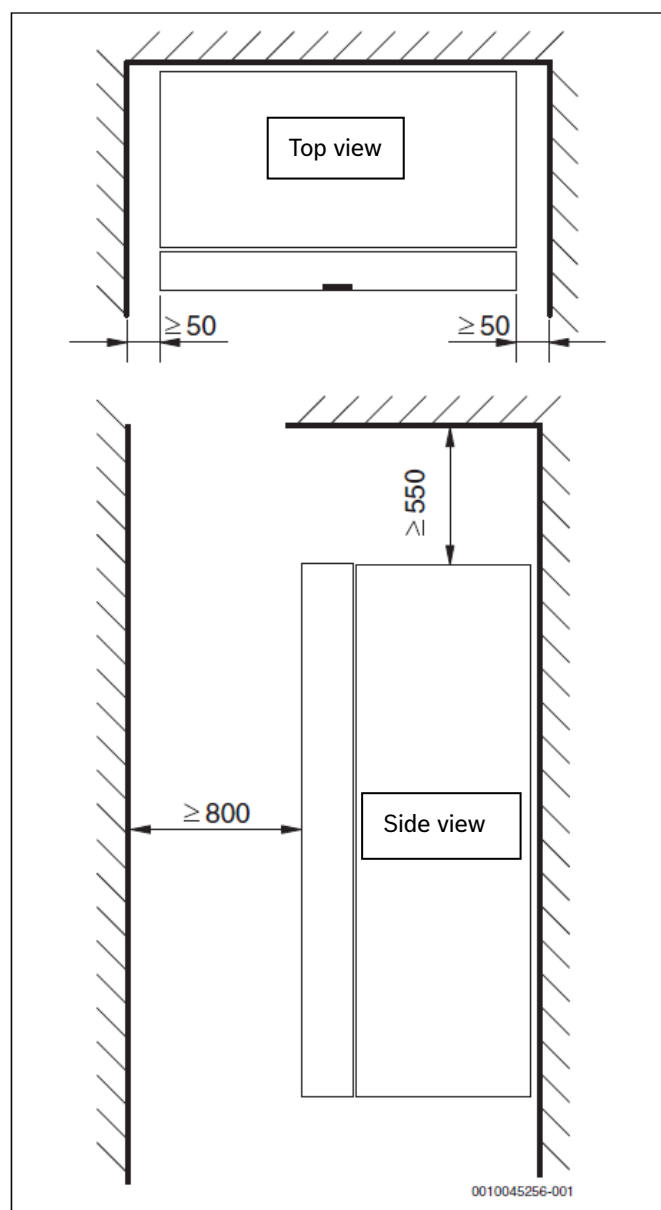
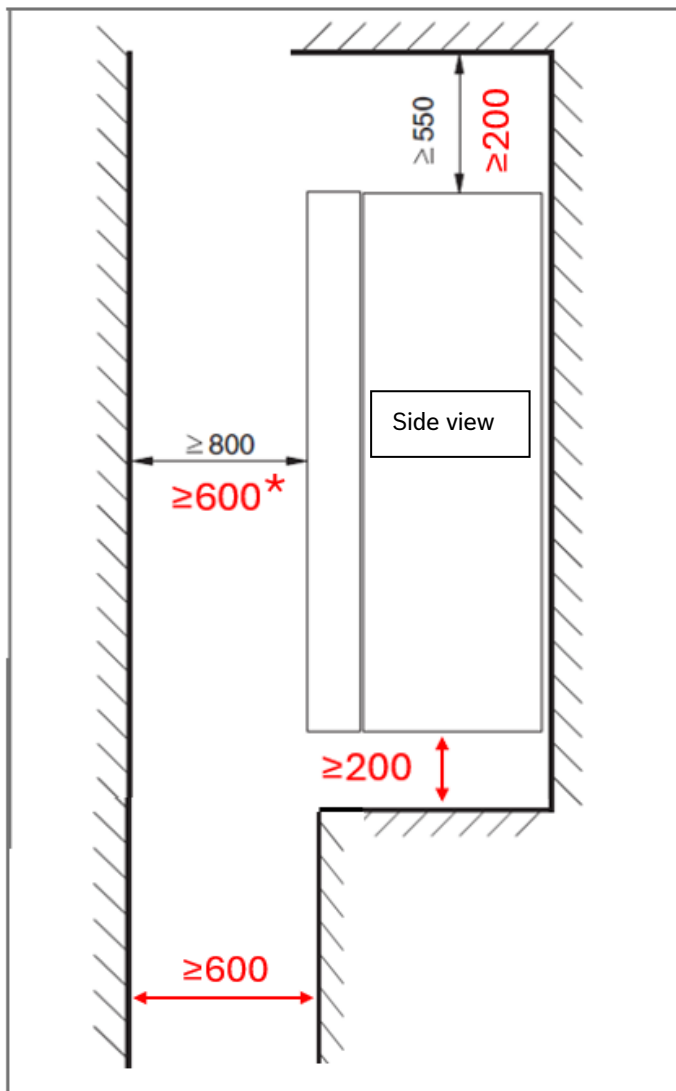
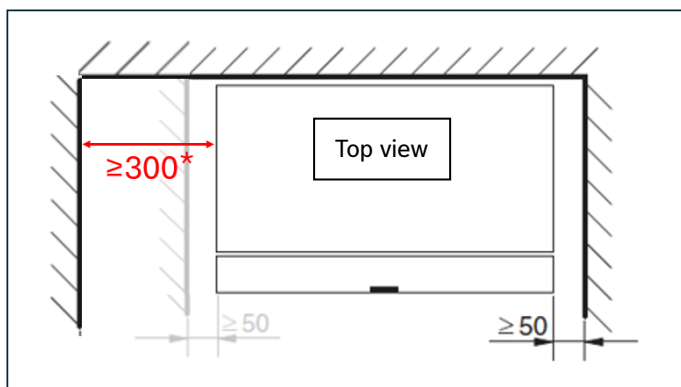

Fig 1. Existing clearances
Fig 2. New clearances*
Fig 3. New clearances*
There has been a reduction in clearances for the 5800i heatpump wall hung indoor unit. Please see below in Fig1 the current installation manual clearances followed by the new allowable clearances in Fig 2 and Fig 3. Be aware when reducing certain clearances there may be additional information to abide by.
- There must be at least 50mm clear space to either the left hand or right hand side of the appliance. (Fig 1.)
- There must be at least 200mm clear space to any object which is sited below the appliance. (Fig 2.)
- There must be 200mm clearance above the appliance. (Fig 2.)
- There must be at least 600mm* clearance in front of the appliance to floor level. Anything which is sited below the appliance must not protrude into this clear space. (Fig 2.)
- 300mm required on left hand side should the front access be reduced from 800mm and no less than 600mm (Fig 3.)